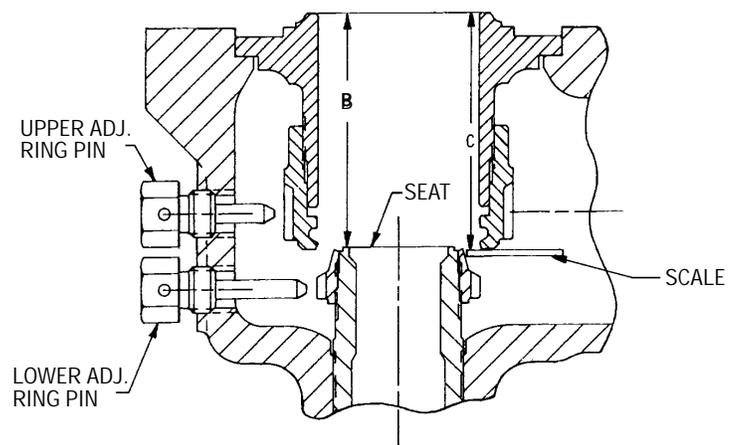

FIGURE 10
11. Measure from the top of the guide to the bushing seat (Dimension B, Figure 10, right) with a depth micrometer or other suitable measuring device. **Record Dimension B.**
12. Place a scale or other thin flat metal surface against the lower face of the upper adjusting ring and measure from the top of the guide to the face of the upper adjusting ring (dimension C, Figure 10). **Record Dimension C.**